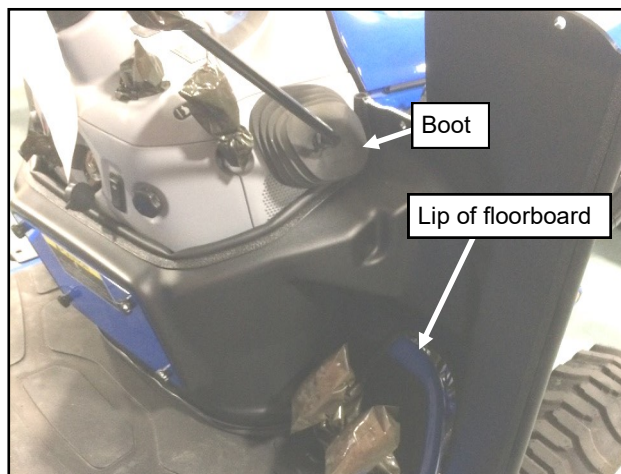

Fig. 4.1 (Radiator Shroud, Right)
4.1 Position the radiator shroud on the vehicle just in front of the front lip of the floorboard per figure 4.1. *Install Tip: If needed, move the rubber boot of the joystick out of the way when placing the shroud in place. Place the boot back in place once shroud is placed.*